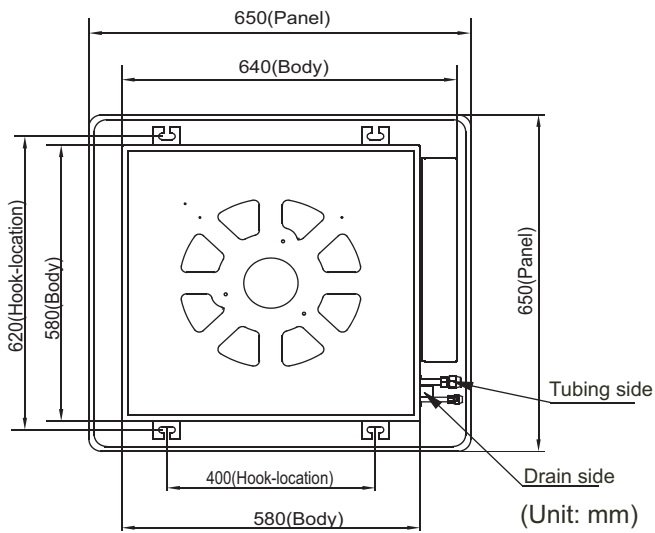

Fig. 4-12
- Regulate the panel in the direction of the arrow in Fig.4-12 slightly to fit the panel's center to the center of the ceiling's opening. Guarantee that hooks of four corners are fixed well.